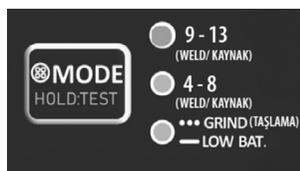

Figure 1
- Press the knob on the right or left side of the helmet to slide it closer or further away from your face and lock it into the desired position in the slots. Ensure both eyes are at the same distance from the lens (see Figure 1-V).
- Loosen the nuts on both sides of the helmet to raise the positioning tab inside. Adjust to your eye level, then lock the tab into place and tighten the nuts (see Figure 1-Y).
- Use the MODE button to toggle through 9-13 Welding (WELD), 4-8 Welding (WELD), and Grinding (GRIND) modes by pressing it briefly. (See Figure 1.)